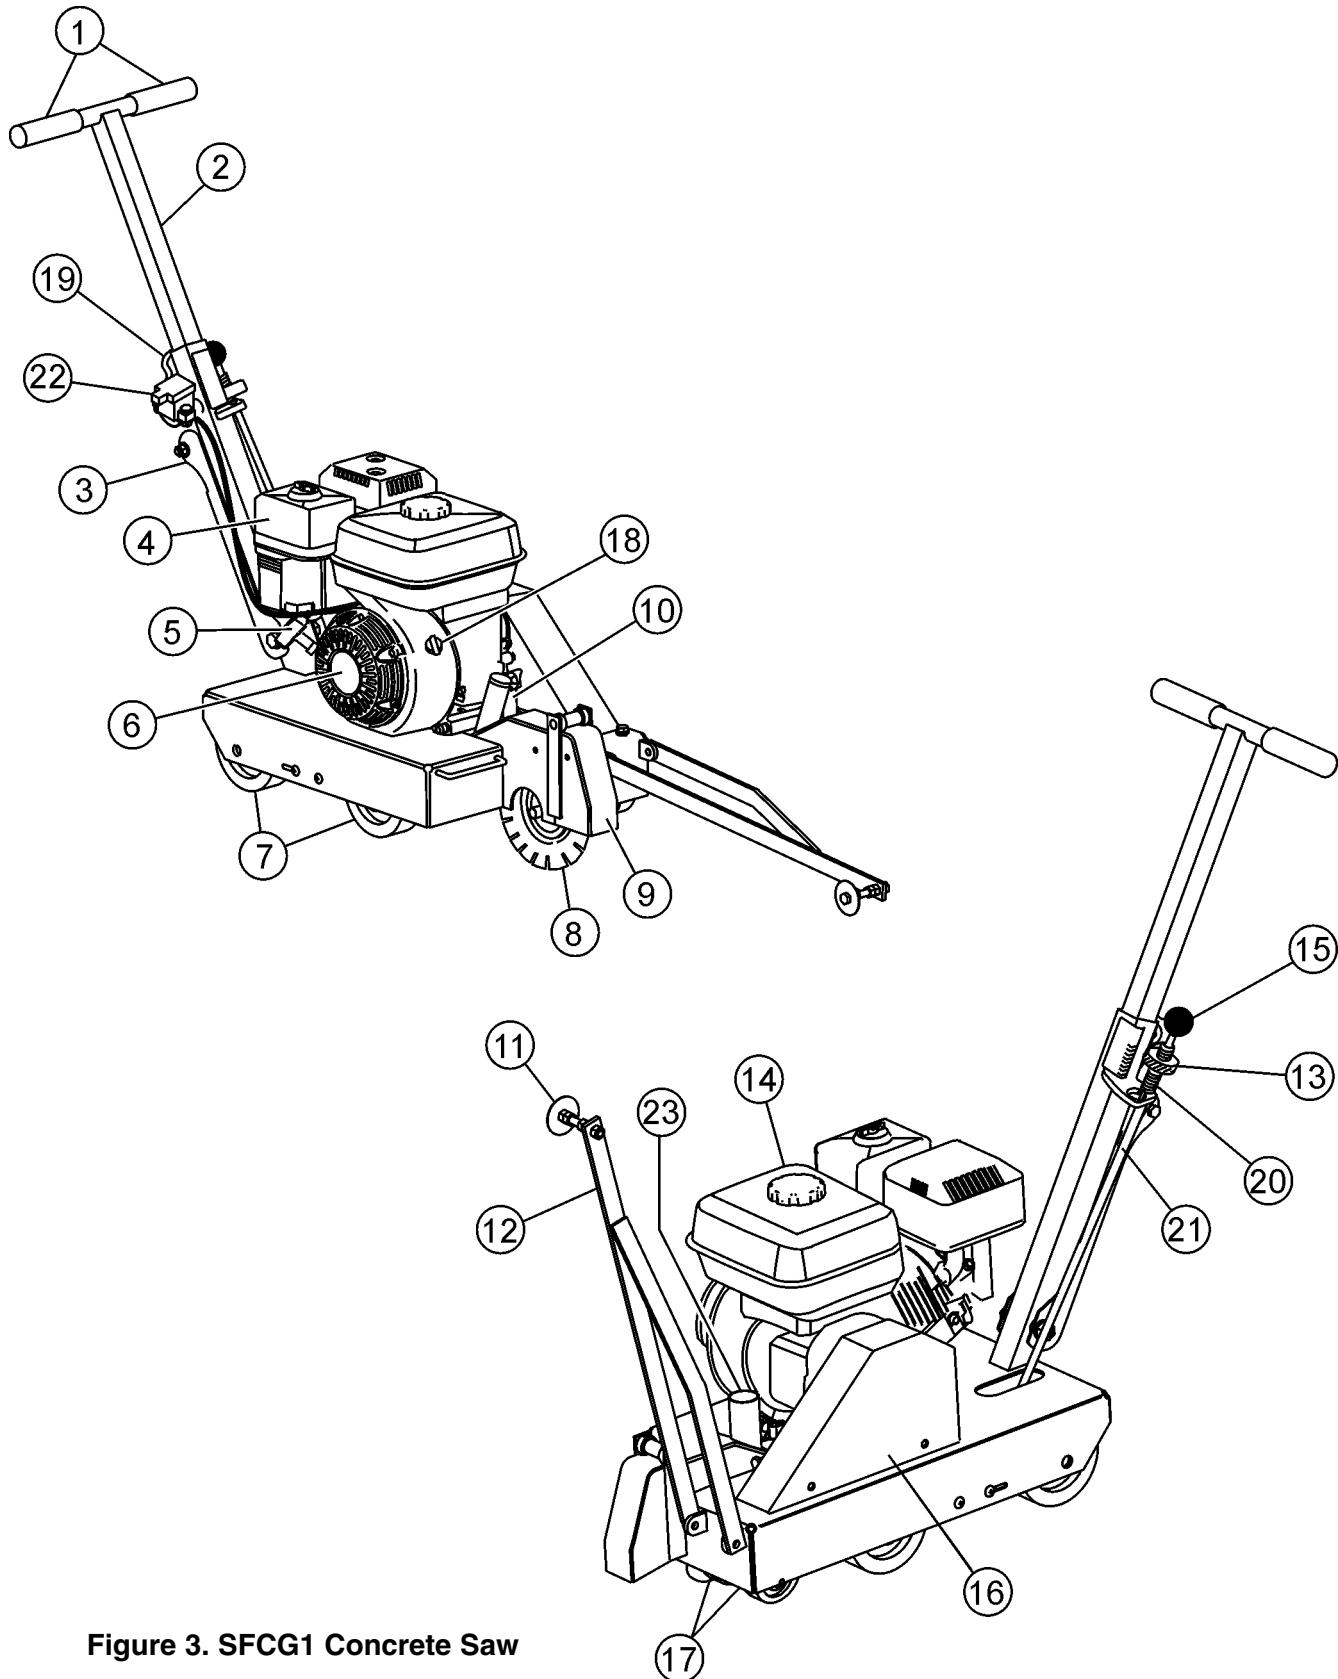

Figure 3. SFCG1 Concrete Saw
- Ensure that the blade is mounted for proper operating direction. (See Figure 3, page 14)
Operator control of the saws is safely accomplished with adjustable handle bars, and a conveniently oriented raise/lower lever and depth adjustment wheel. An engine-off switch (Item 22 Fig. 3) located next to the handle lock allows the operator to safely turn the engine off from the operator's position and away from moving parts.
Figures 3 shows the location of the basic controls or components, for the SFCG1 Concrete Saw. Listed below is a brief explanation of each control or component